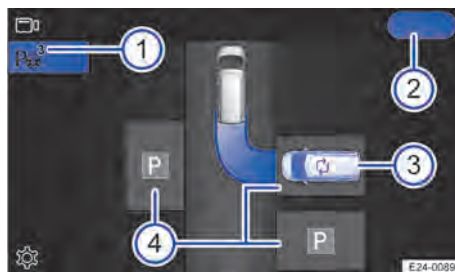

Fig. 134 Infotainment system: selecting a parking space (illustration).
2. Observing the traffic around you, drive slowly past a row of parked vehicles. Active Park Assist automatically searches for possible parking spaces. The number of found parking spaces is shown on the function button  or  for Active Park Assist → Fig. 134 ①.
3. Active Park Assist automatically selects a parking space and shows this as the preferred parking space (blue vehicle) in the third-generation Infotainment system → Fig. 134 ②.
1. Tap the desired parking space on the third-generation Infotainment system screen → Fig. 134 ④.
1. If available, tap the  symbol on a parking space → Fig. 134 ③.
If Active Park Assist is not activated, any detected parking spaces → Fig. 134 ① may be shown in the Parking Sensors display.